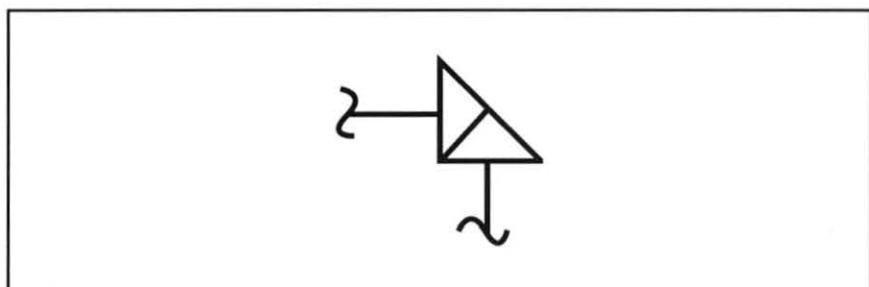

Figure 30. Valve Symbol
8. Determine the type of valve or actuator symbol depicted in figure 30.